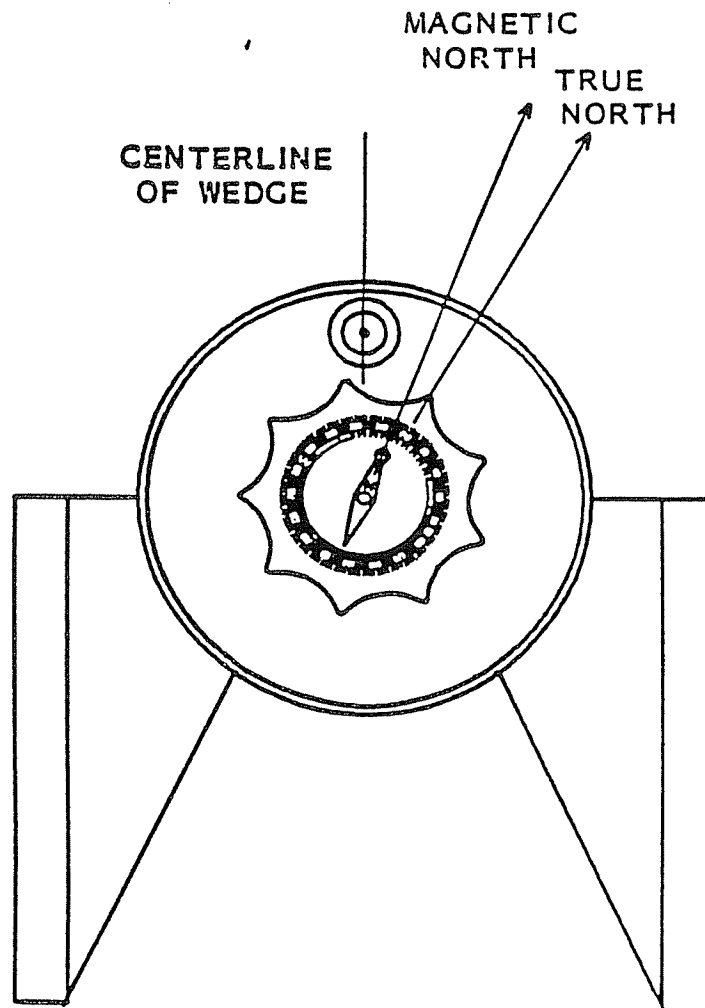

Fig. 6: Equatorial Wedge and Magnetic Compass
2. Rotate the knob/compass so that the magnetic pointing arrow lies directly over the painted black alignment arrow (Fig. 6.) The "North" position on the direction scale (and the point on the knob/compass) now point directly north.